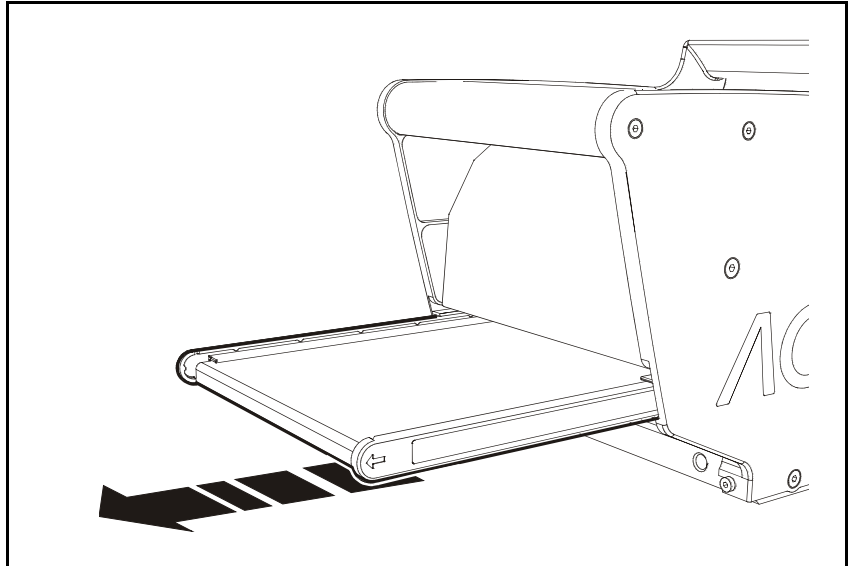

Figure 5-19. Pulling out an ALM8 or ALM1216 magazine waste shelf.
- For ALM8 and ALM1216 magazines, see Figure 5-19.